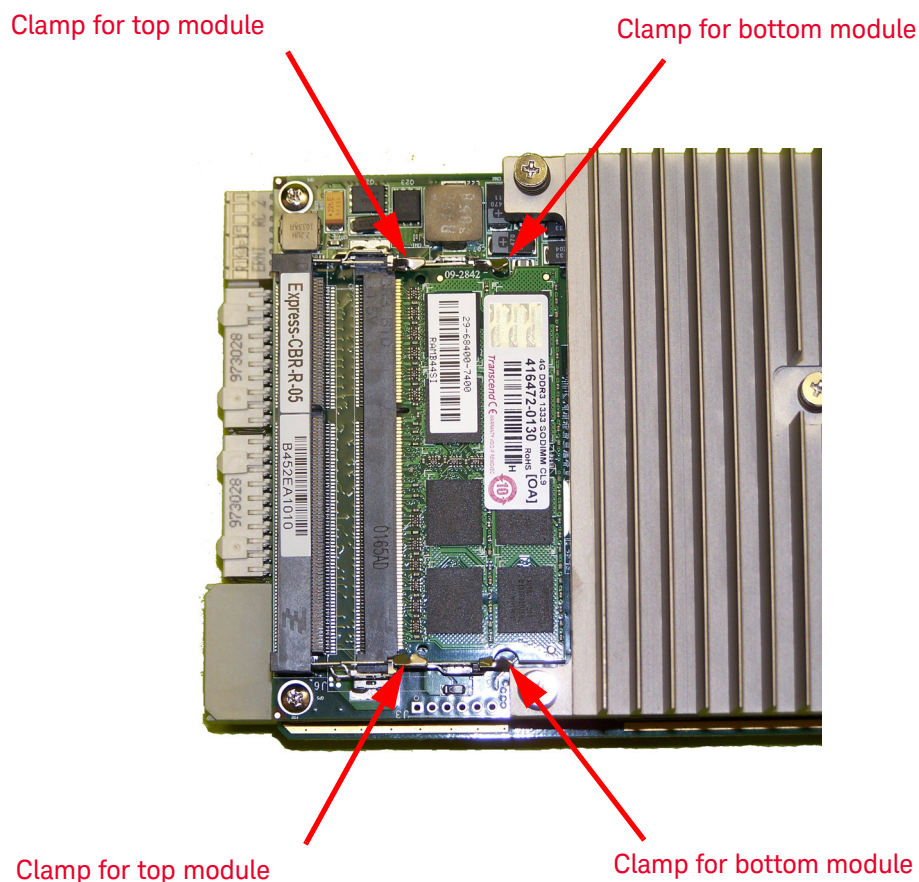

Figure 18 M9036A Memory Modules (only the bottom module shown)
- 3 Position the controller, top side up on the workbench as shown in Figure 18.